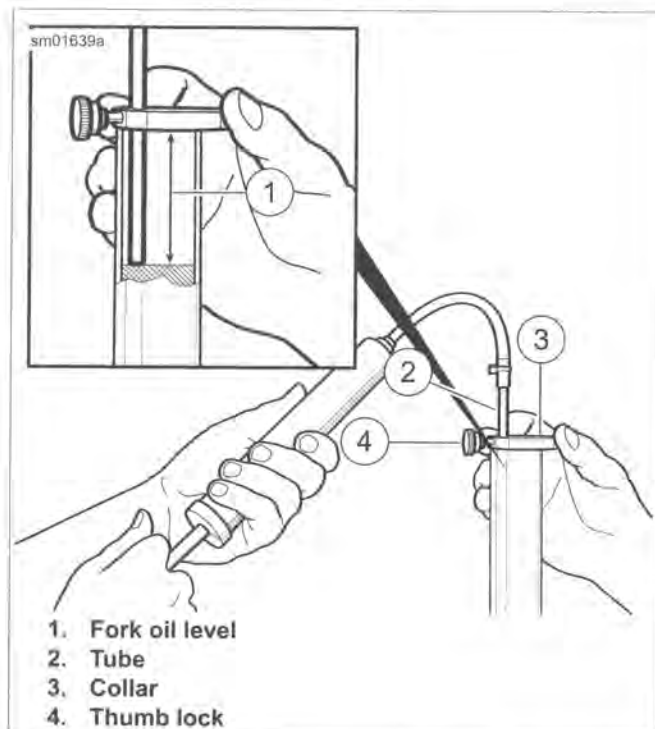

Figure 2-66. Oil Level Gauge
6. See Figure 2-66. With the fork tube bottomed in the fork slider, insert tube of gauge until metal ring rests flat on top of fork tube.